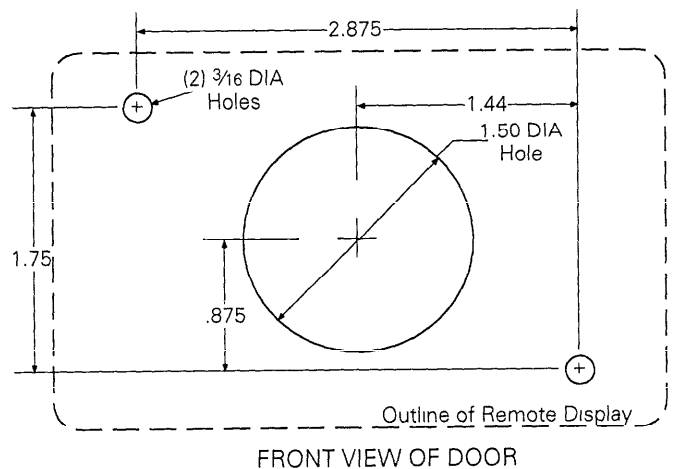

Figure 5. Remote Display mounting-hole pattern.
2. Drill and knock out a 1½-inch-diameter hole for the Harness connector in the center of the mounting location. Drill two 3/16-inch-diameter holes for the Remote Display mounting studs, as illustrated in Figure 5. The compartment door may have to be removed first.